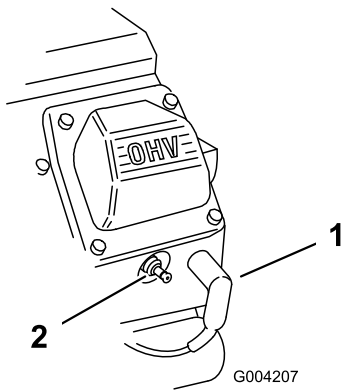

Figure 164
- Pull the wires off the spark plugs (Figure 164).